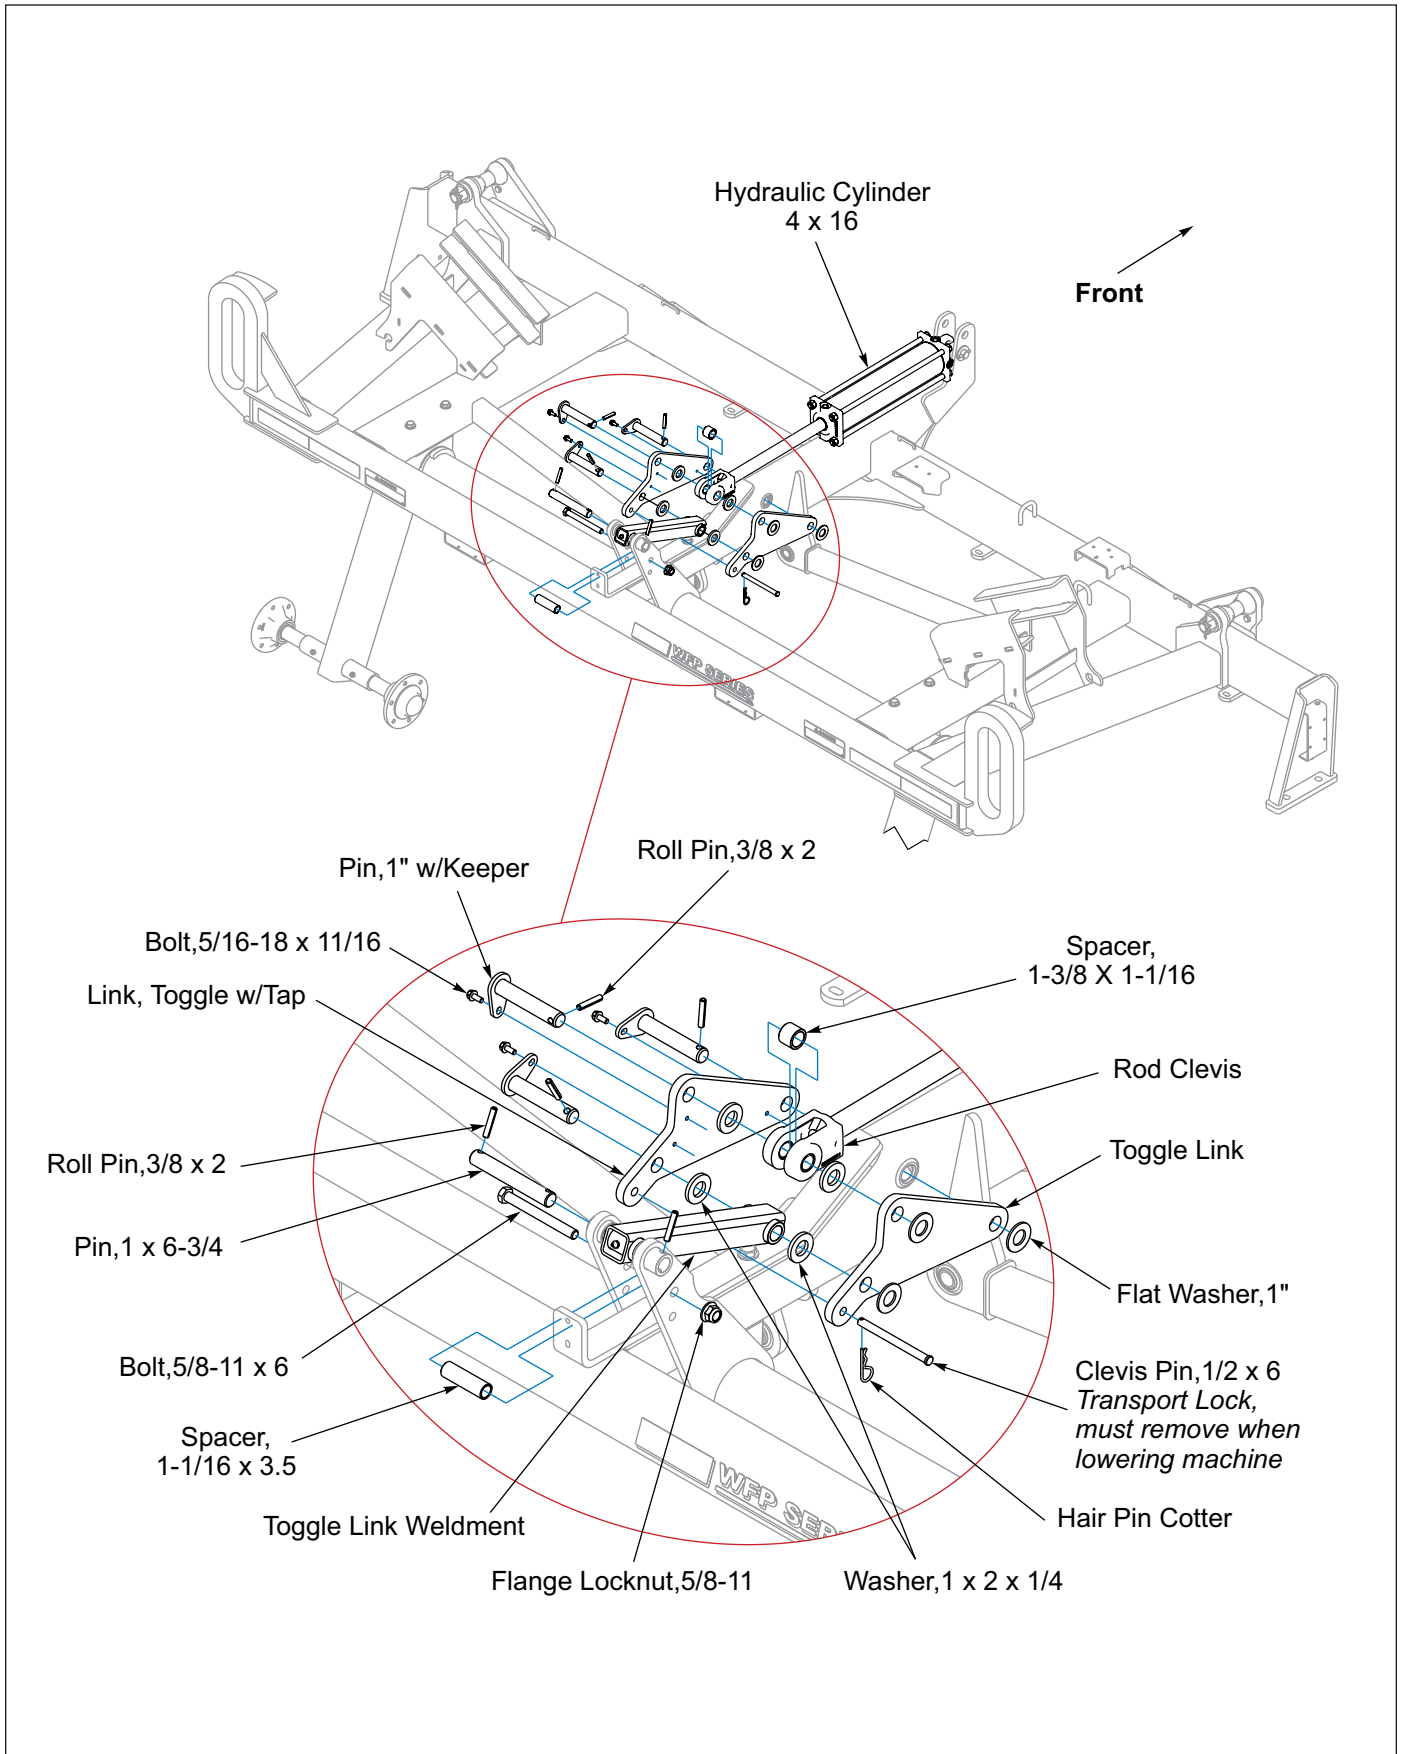

Figure 2-2: Transport Axle Linkage Installation
4. Install the base end of the 4 X 16 Hydraulic Cylinder using one of the pins provided with the Cylinder. The rod end of the Cylinder will be attached to the Lift Linkage at the same time as the Transport Axle Linkage. **See Figure 2-2.**
1. Assemble the Toggle Link Weldment to the Transport Axle Assembly with 1 x 6-3/4 Pin. Secure with 3/8 x 2 Roll Pins. **See Figure 2-2.**